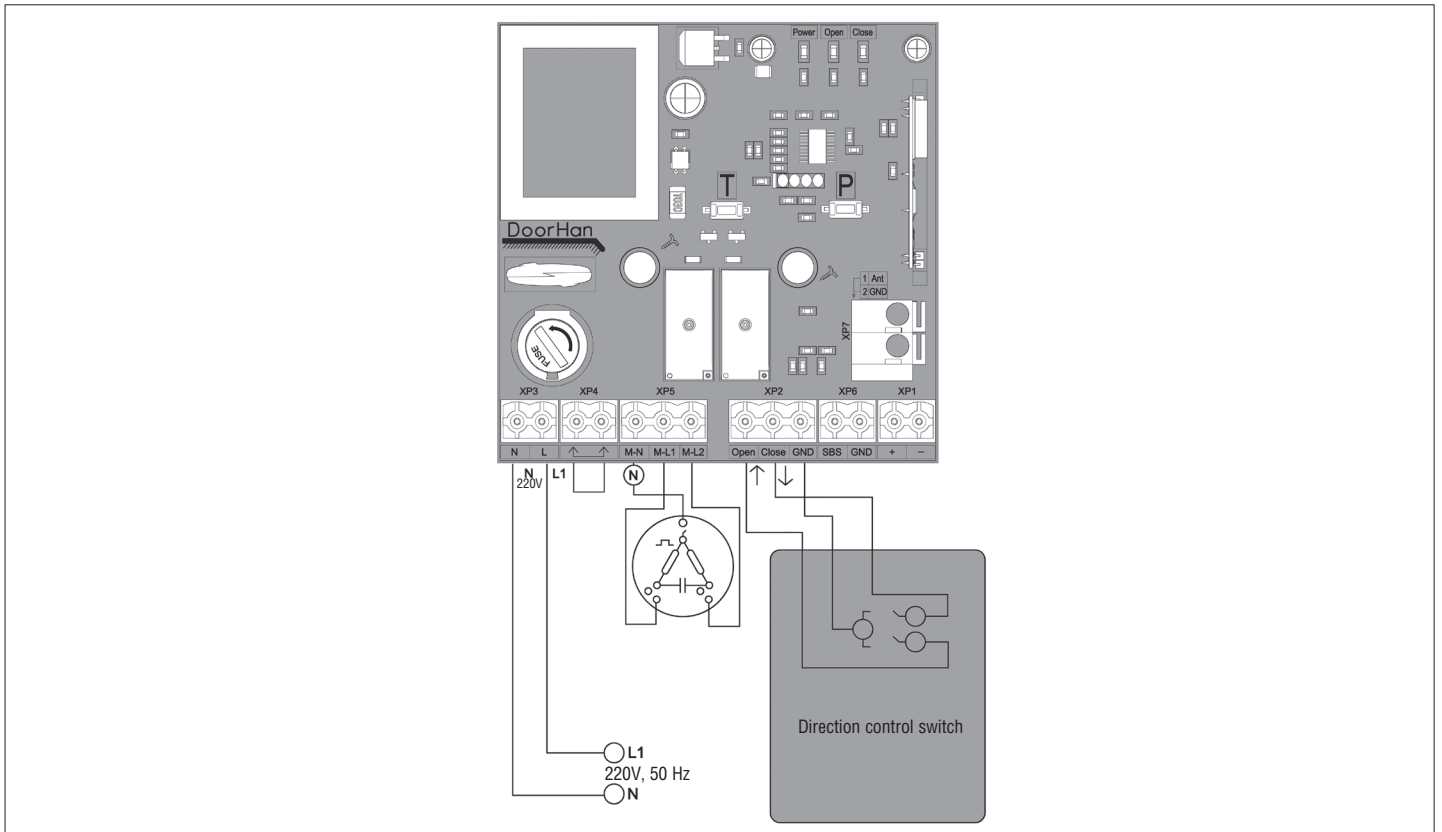

Fig. 1. Connection of roller shutter motor to CV01 control unit
3. Make the electrical connections in accordance with fig. 1, 2, 3.
Table 3. Control board terminals (fig. 1, 2, 3)